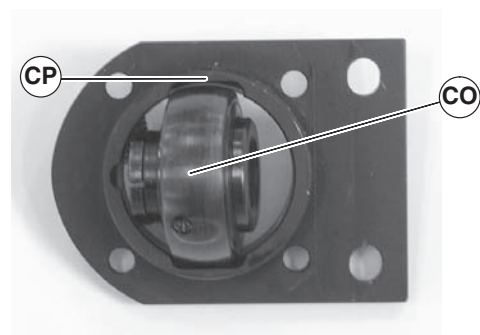

Figure 79
- Turn bearing (Figure 79, item CO) to align with slots (CP) in bearing housing. Then remove bearing.